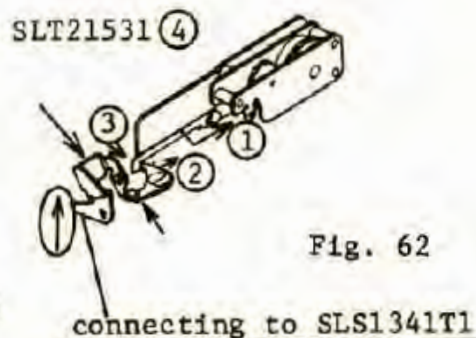

Fig. 62
- 1) When releasing the Delayed shutter release, first ①-lever moves and continuously ②, ③ and ④ as shown in Fig. 62. The SLS1341T1 Shutter release bar is depressed by the end of ④-SLS 21531 Release lever, so that the shutter is released.